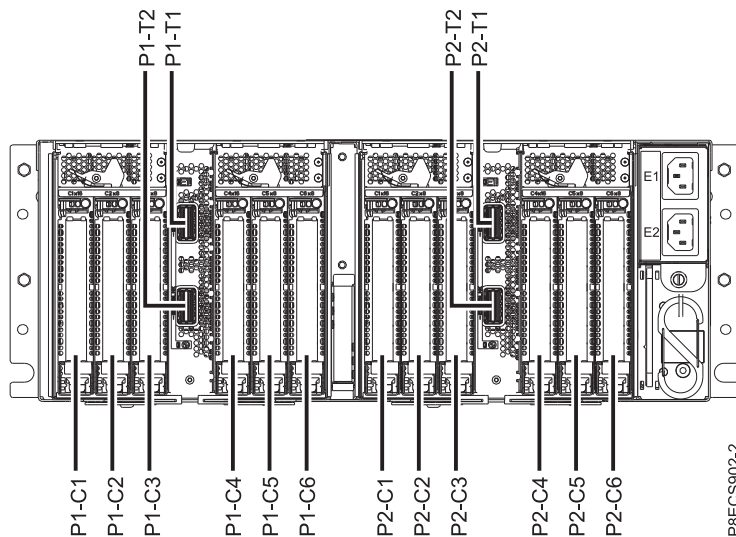

Figure 16. PCIe adapter slot locations in the EMX0 PCIe3 expansion drawer
2. Determine the slot in which you want to install a PCIe adapter. The PCIe adapter slots are located in the I/O module bay that is installed in rear of the EMX0 PCIe3 expansion drawer. Figure 16 shows the PCIe adapter location codes.